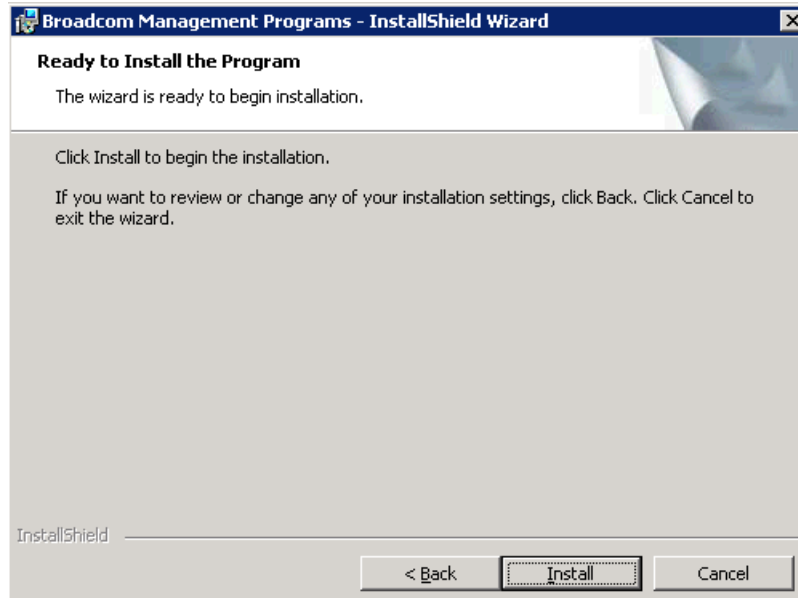

Figure 5-27 Ready to Install
4. Click **Install** to continue the installation. See Figure 5-27.